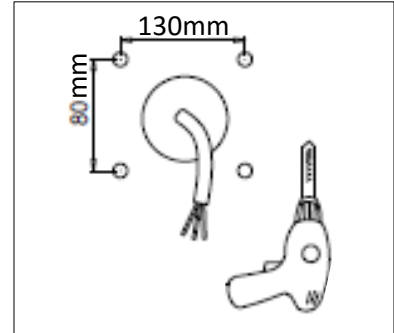

Figure 9
3. Using the mounting plate as a template, mark and drill holes in the wall on which the luminaire will be mounted (see Figure 9).